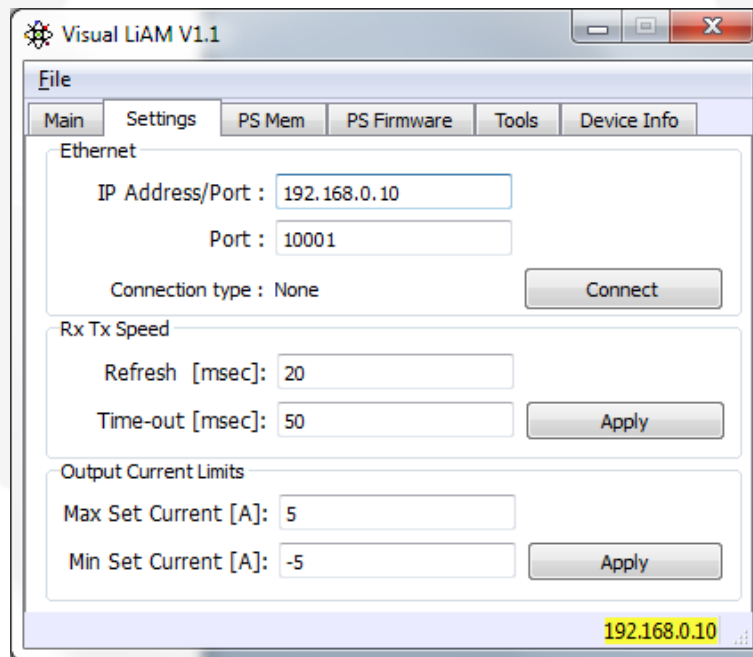

Figure 3: Visual LiAM settings TAB
Enter the IP number of the power supply (PS) you want to control in the Settings TAB (Figure 3) and leave the port number to 10001 if you did not modify this value.